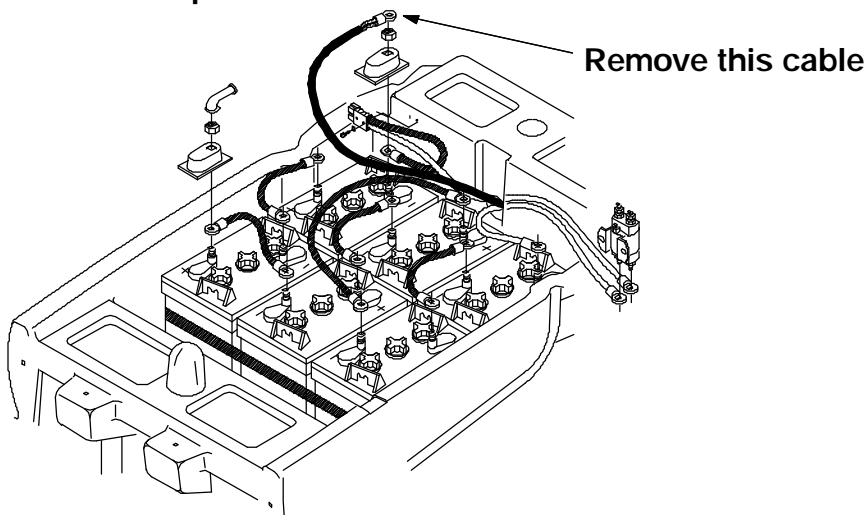

FIG. 1 - Battery Cable Disconnect
(Refer to Fig. 1)
3. Disconnect the negative battery cable from the battery nearest the back of the machine before servicing any electrical components. (Refer to Fig. 1)